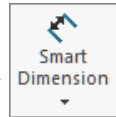

**Fig. 43**
Step 11. **Ctrl click left circle**, **Fig. 43**.